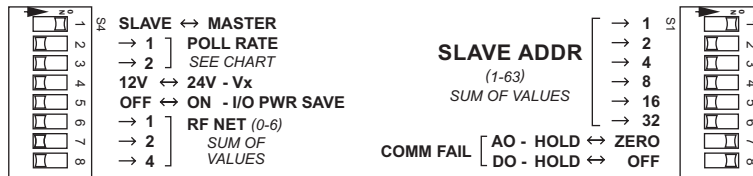

Figure 1 (Master Unit Settings)
Step 1: Set one unit as the Master. Note that the units are identical, and come with the same default settings. Pick one unit to be the Master and move the upper left DIP switch to the "Master" position. See Figure 1 & 2 below for proper settings.
Figures 1 & 2 below show the typical DIP Switch settings for simple Cable Replacement as described above. Figure 2 shows the factory default settings (Slave), and Figure 1 shows the upper-left DIP Switch set for Master function.